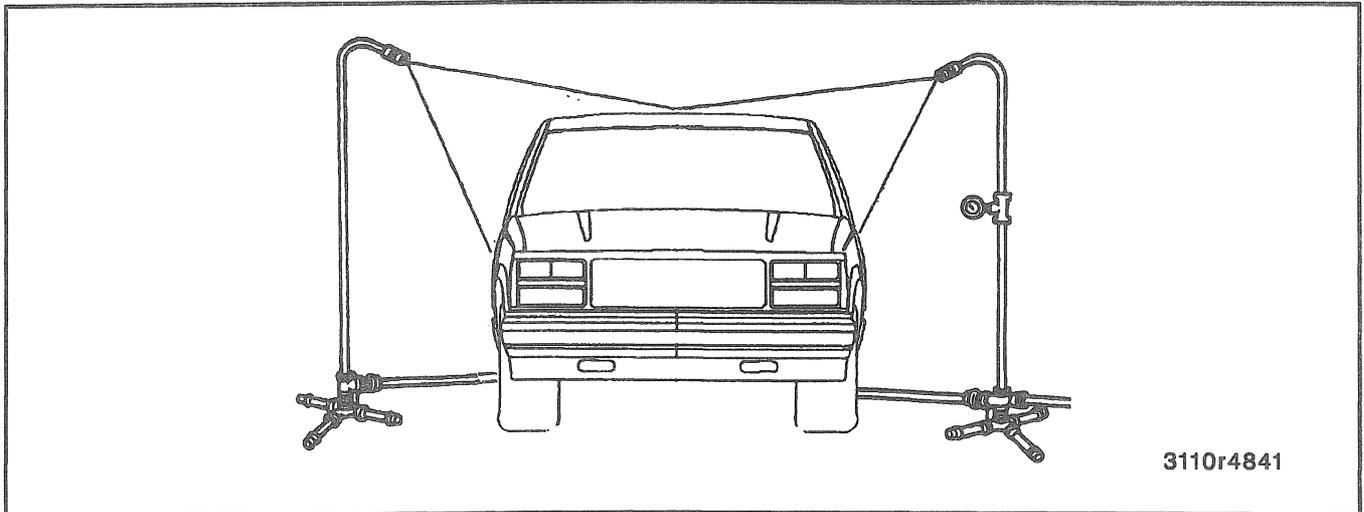

Figure 29—Water Leak Test Stands
1. Position the stands as shown in Figures 29 and 30. Water spray from the stands should overlap on the vehicle.